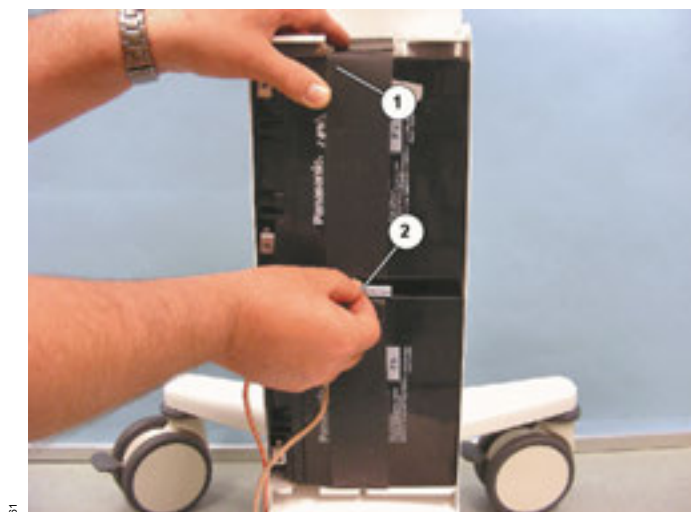

Fig. 112 External batteries: Screw with bar
- 10 Hold the upper battery (Fig. 112/1) and screw in the screw with bar (Fig. 112/2) a few turns.